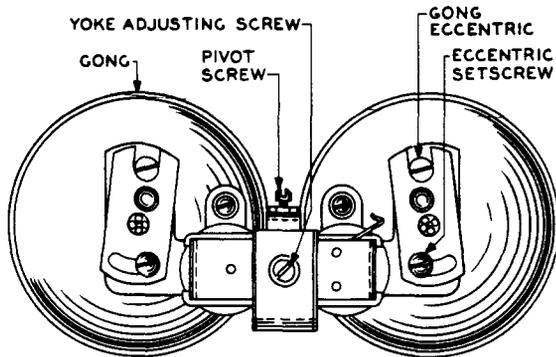

Fig. 12 - Adjusting Screws for Eccentric-type Gong Mountings
(4) When it is necessary to readjust the airgaps on these ringers, decrease or increase the airgap by turning the yoke adjustment screw (Fig. 12) in (clockwise) or
(2) If the gong mounting is of the eccentric style shown in Fig. 12, adjust the clearance between the clapper ball and gong by loosening the eccentric setscrew with the 4-inch regular screwdriver and turning the eccentric gong as required.